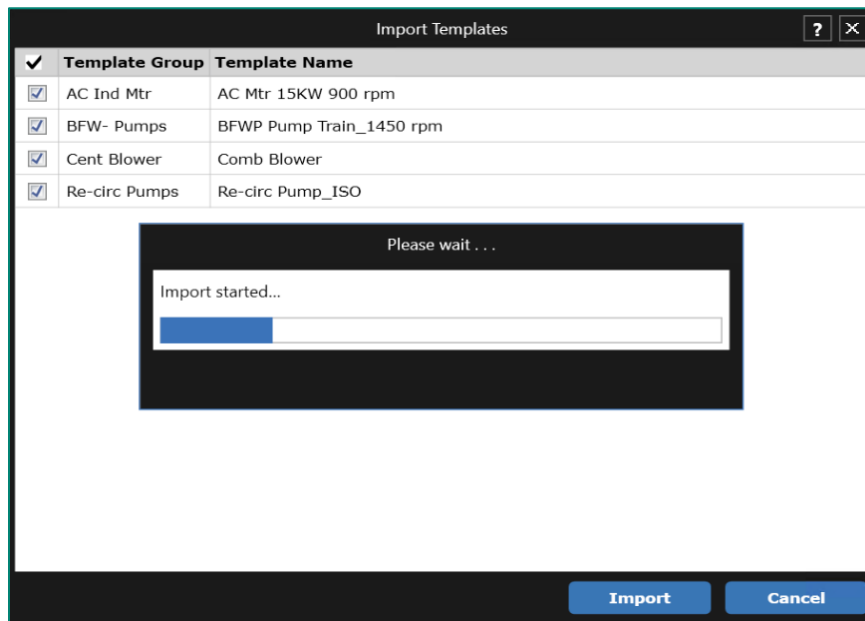

Figure 13: Import Templates Dialog
- Select the *.slt file, select the desired template to import, and click 'Import' (Figure 13)